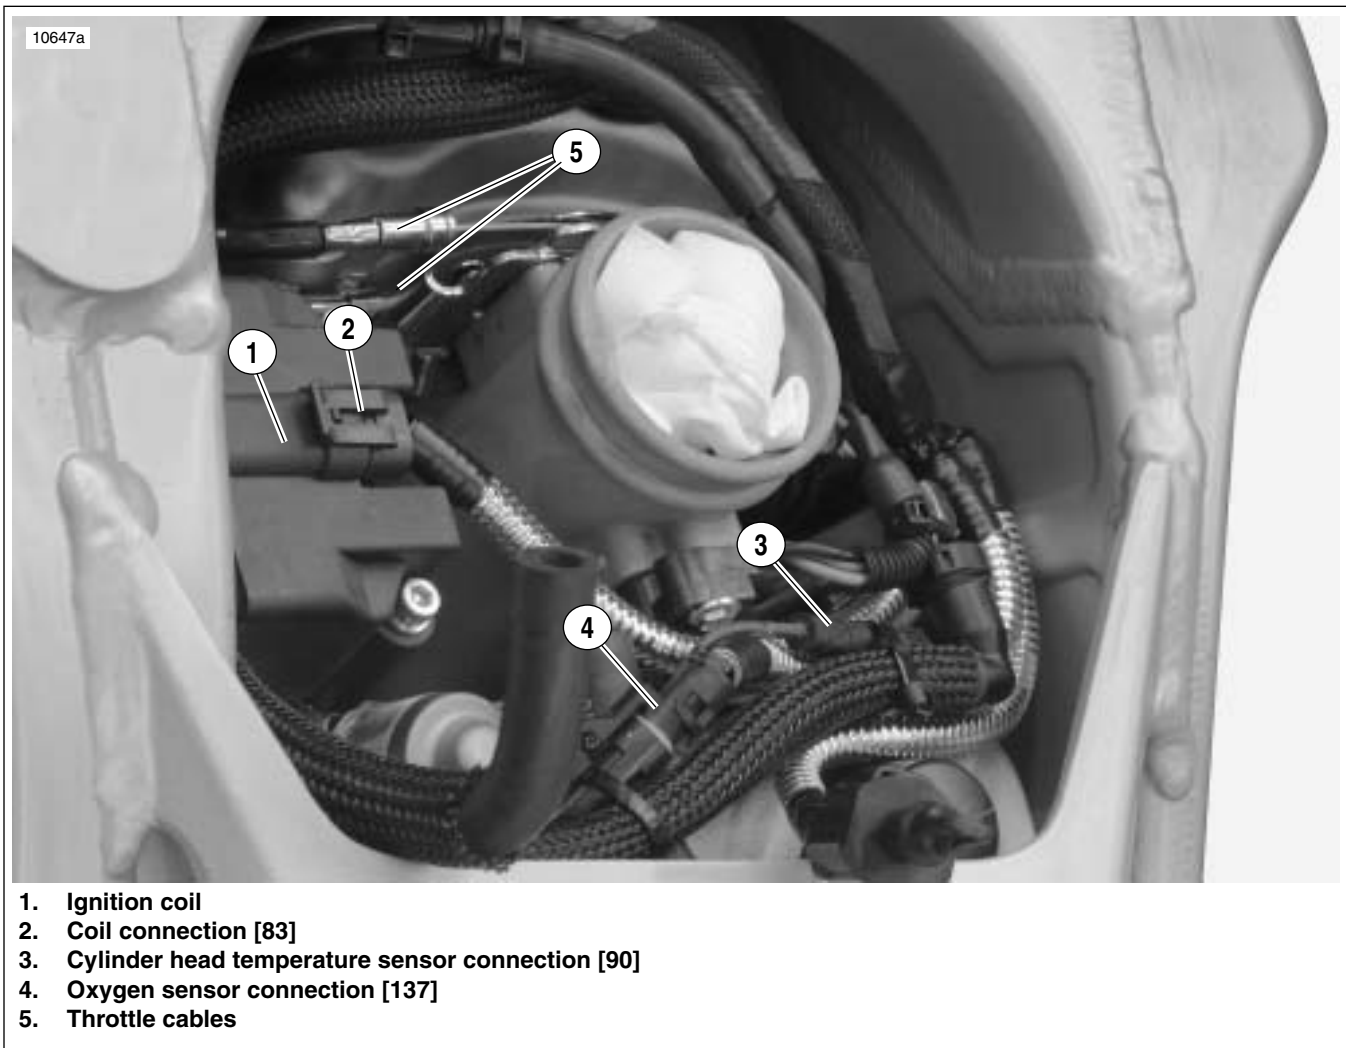

Figure 3-15. Electrical Connections and Throttle Cables (Typical)
9. See Figure 3-15. Disconnect the ignition coil connector (2) and remove.
- a. Temperature sensor (3) [90].
- b. Oxygen sensor (4) [137].